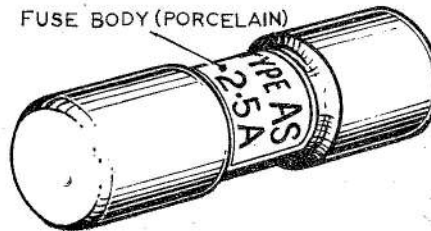
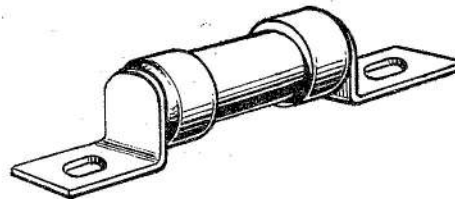

Fig. 1. Ferrule-contact fuse-link
Fig. 2. Tag-contact fuse-link
7. Cartridge fuse-links can be divided into two groups according to the type of contact the link makes with the fuse-unit or carrier. These are the ferrule-contact type (fig. 1) and the tag-contact type (fig. 2). Fuse-links used in service are listed in Appendices to this chapter.